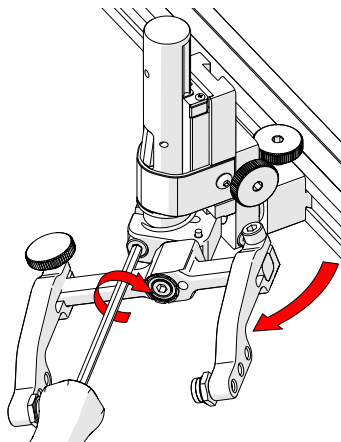

Fig. 111 - Rotate and tighten
3. Tighten the transverse adjustment screw (*Fig. 111*).